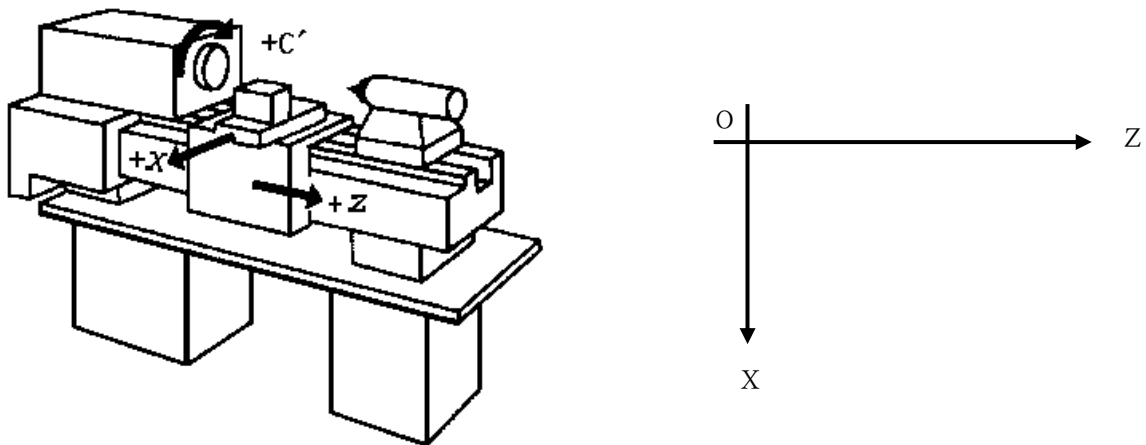
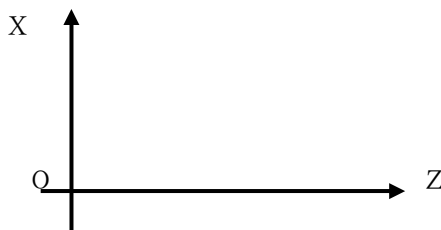

Fig. 1-1 X—Z plane rectangular coordinate system 1 (front tool post coordinate system)
Fig. 1-2 X—Z plane rectangular coordinate system 2 (rear tool post coordinate system)
This system has defined the controlled axis and its motion according to GB/T 19660—2005/ISO 841:2001 *Industrial Automation System and Integration-Numerical Control of Machines-Coordinate System and Motion Nomenclature*. The two coordinate axes are named with X and Z, which are perpendicular each other to form X—Z plane rectangular coordinate system as Fig. 1-1:
The coordinate system in the manual defines X, Z based on Fig. 1-1(front tool post coordinate system). Some commands of G codes must be converse when Fig.1-2(rear tool post coordinate system) defines X, Z:
1) When G02 programming based on Fig.1-1, Fig. 1-2 uses G03 programming; when G03
programming based on Fig.1-1, Fig.1-2 uses G02 programming.
- 2) When G41 programming based on Fig.1-1, Fig. 1-2 uses G42 programming; when G42 programming based on Fig.1-1, Fig.1-2 uses G41 programming.